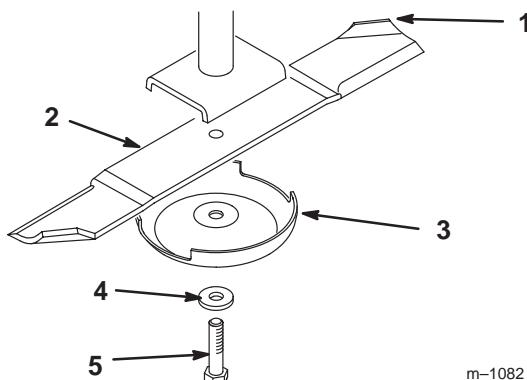
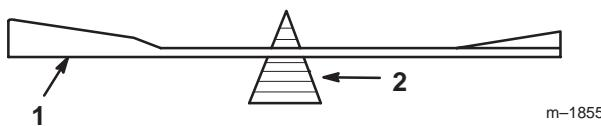

Figure 38
Figure 40
Hold the blade end using a rag or thickly-padded glove. Remove the blade bolt, washer, anti-scalp cup and blade from the spindle shaft (Fig. 38).
2. Check the balance of the blade by putting it on a blade balancer (Fig. 40). If the blade stays in a horizontal position, the blade is balanced and can be used. If the blade is not balanced, file some metal off the end of the sail area only (Fig. 38). Repeat this procedure until the blade is balanced.
1. Install the blade onto the spindle shaft (Fig. 38).
Important The sail part of the blade must be pointing upward, toward the inside of the mower to ensure proper cutting (Fig. 38).
2. Install the anti-scalp, lock washer, and blade bolt (Fig. 38). Torque the blade bolt to 85–110 ft-lb (115–140 N·m).